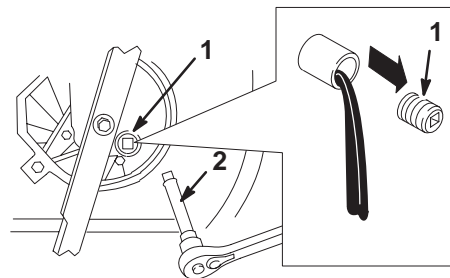

Figure 29
- Remove the oil drain plug, return the lawn mower to its operating position, and allow the oil to drain into the drain pan (Fig 29).